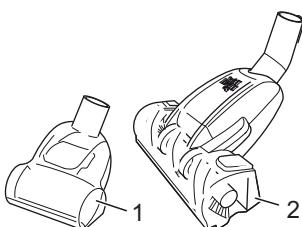

Fig. 8
- **Mini turbo brush (Fig. 8/1)**
- **"Fello" pet hair turbo brush (Fig. 8/2)**